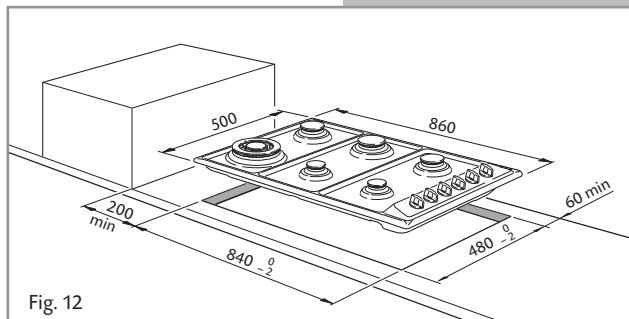

Fig. 12
In order to install the hob into the kitchen fixture, a hole with the dimensions shown in fig. 12 has to be made, bearing in mind the following:
- the hob must be kept no less than 200 mm away from any side wall (fig. 12).